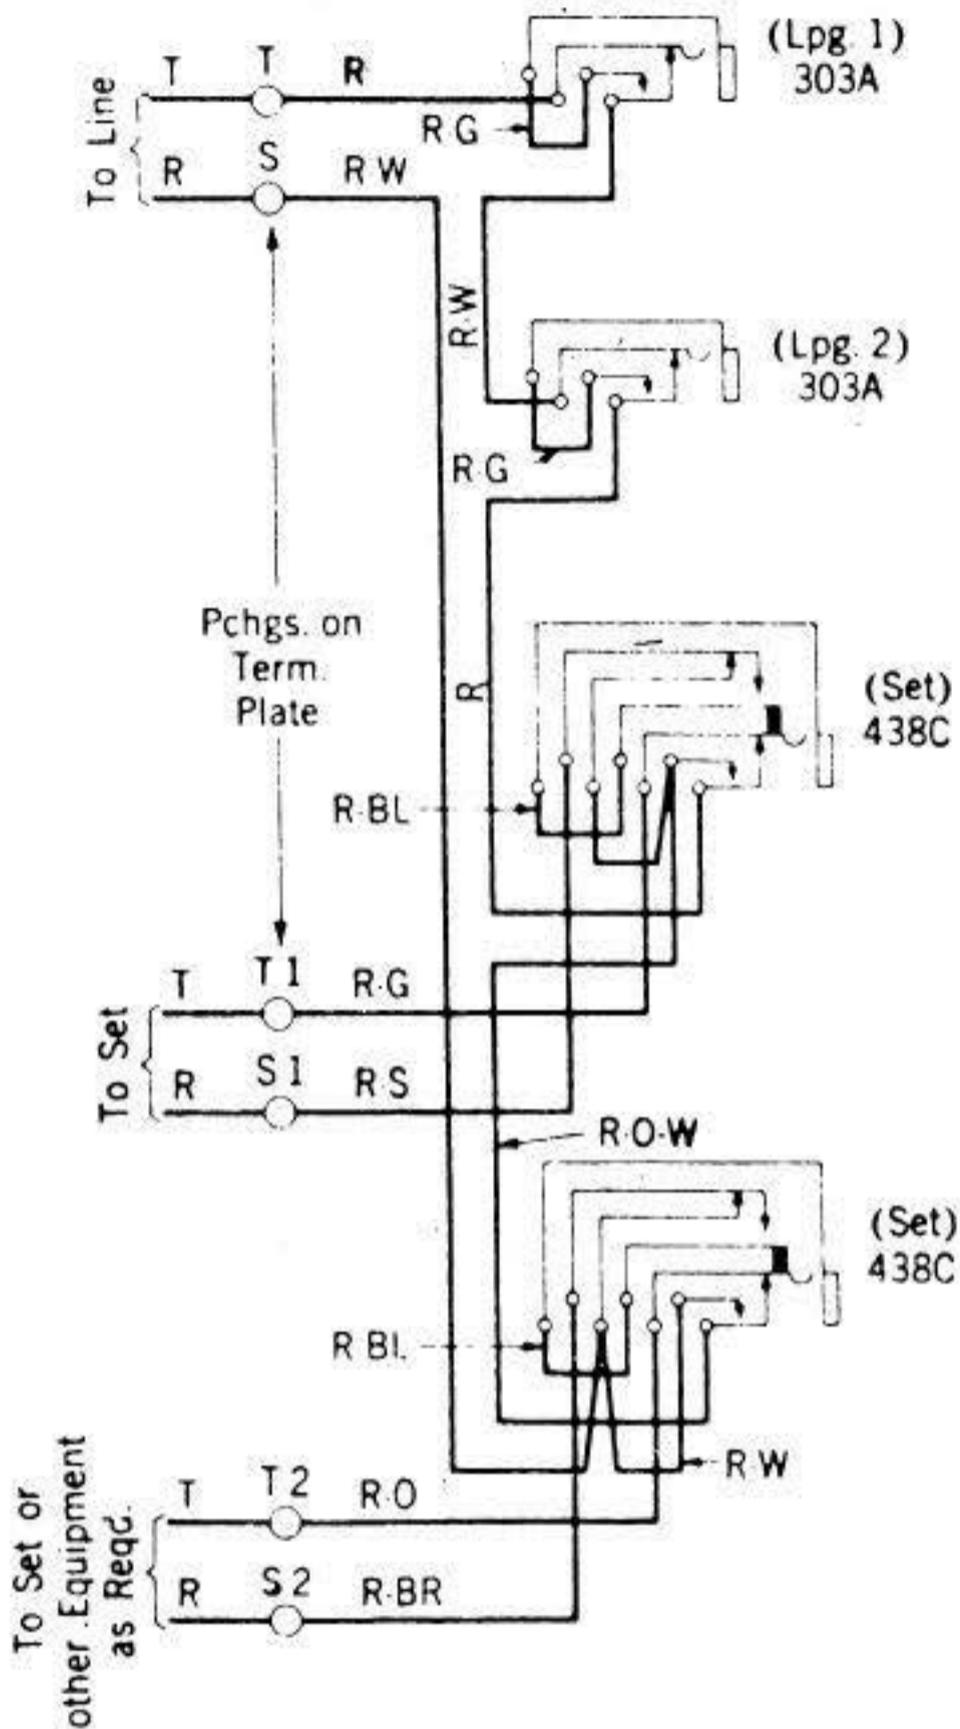

Fig. 9 - Jack Circuit Wiring, after Modification, to Provide Two "Set" Jacks.
5.02 The material required for each such jack replacement is one 438C jack and a small amount of 22 DSCL wire, single. The jack circuit wiring before modification is shown in Figure 1. The jack circuit wiring after modification is shown in Figure 9, which was reproduced from Long Lines Department Drawing S-8610-143.